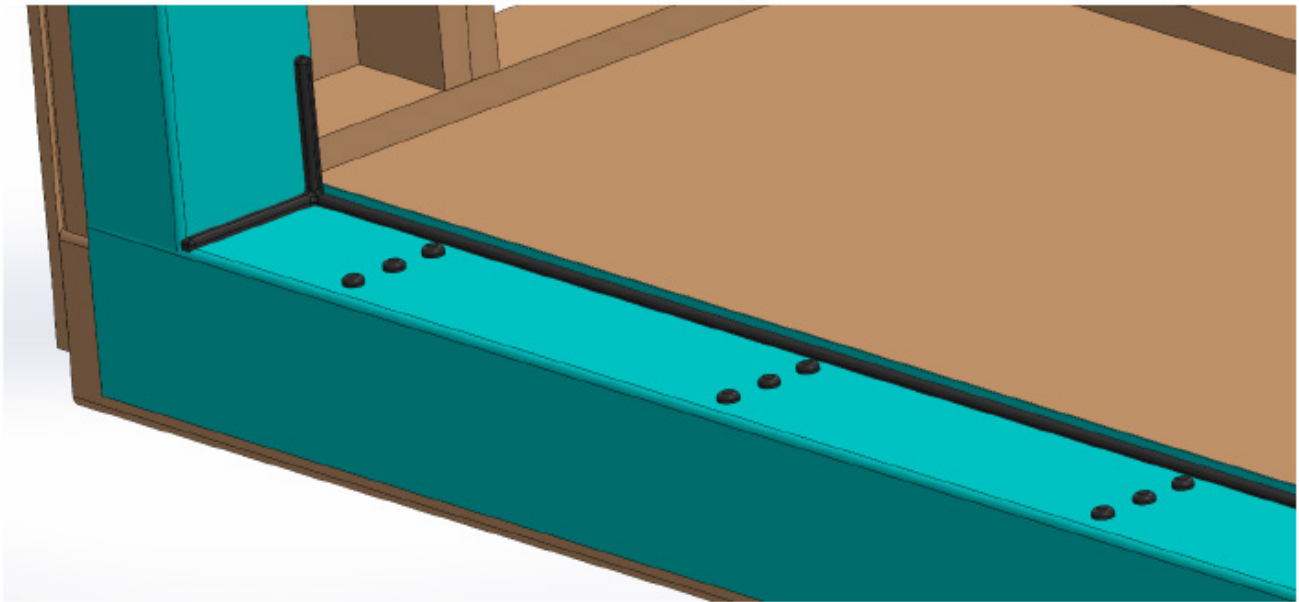

Figure 9
15. With the sill assembly removed, and clean from debris, apply a 1/2" bead of sealant to the floor from jamb to jamb along the exterior edge of the mark previously applied to the floor. The sealant should be applied in a U-shape to ensure a proper and complete water-barrier has been accomplished across the full width of the sill opening. Sealant should also be applied a minimum of 6" up each side. See **Figure 9**.